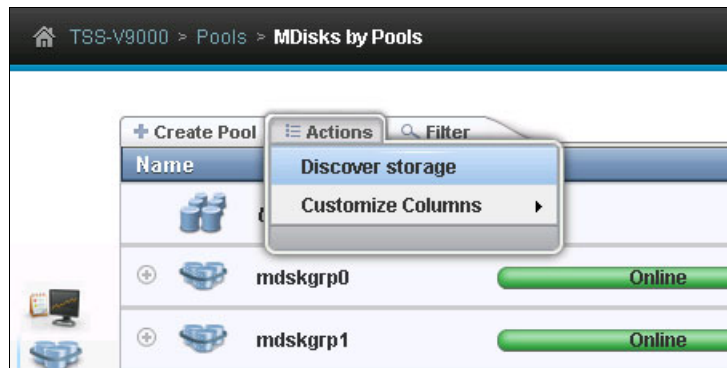

Figure 8-69 Discover storage
- Now that the storage pool is created and is still empty, you need to assign disks to it. In the Pools > MDisks by Pool view (Figure 8-69), with no MDisk pool selected, select **Actions** → **Discover Storage**.